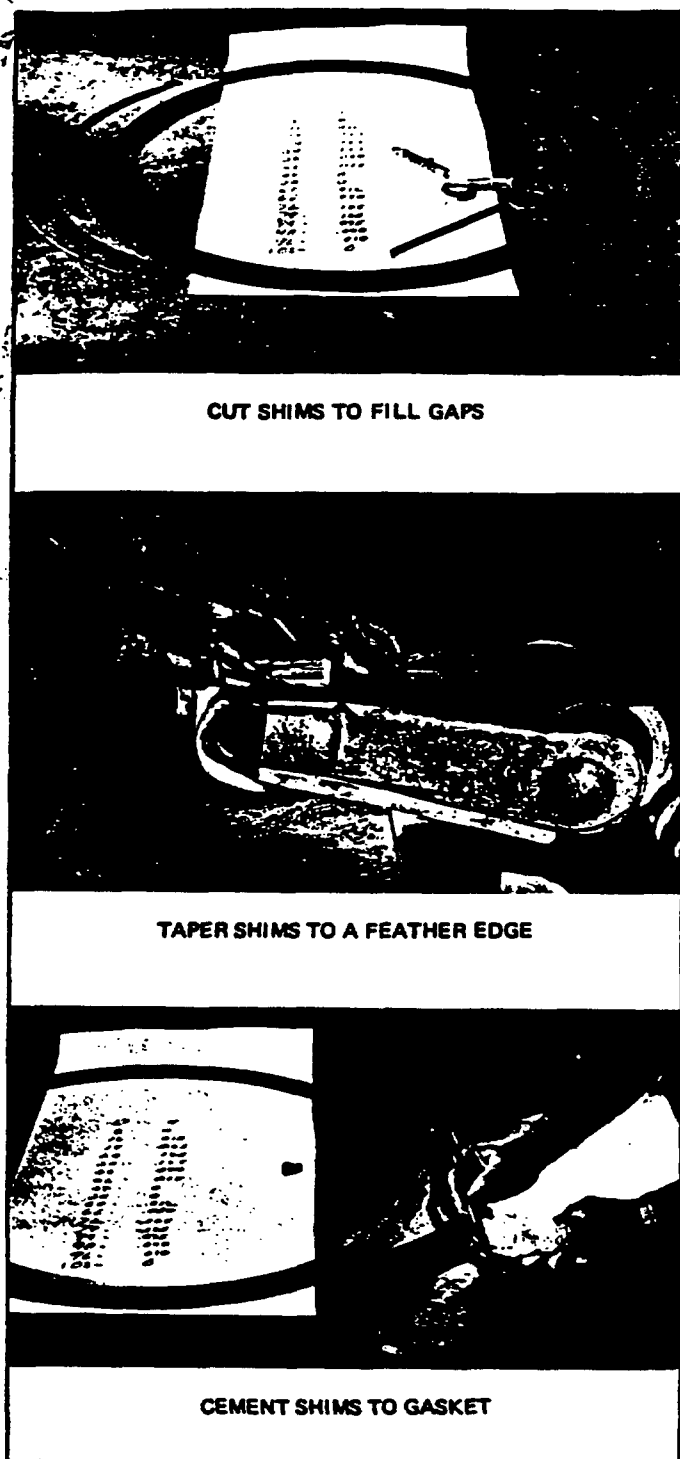

Figure 15. Shimming a Large Diameter Gasket
5. List these marks on a sheet of paper, designating them 0, 6, 12, 18, etc. (See Fig. 15)